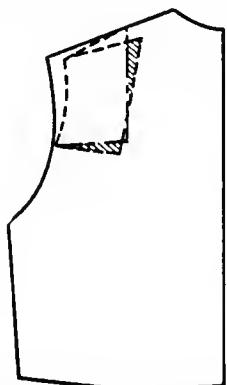

Fig. 35. For narrower shoulders.
- B. For narrower shoulders: Slash the pattern as above and lap it to remove the desired width. Relocate the shoulder seam from the neckline edge to the top of the armhole (Fig. 35).